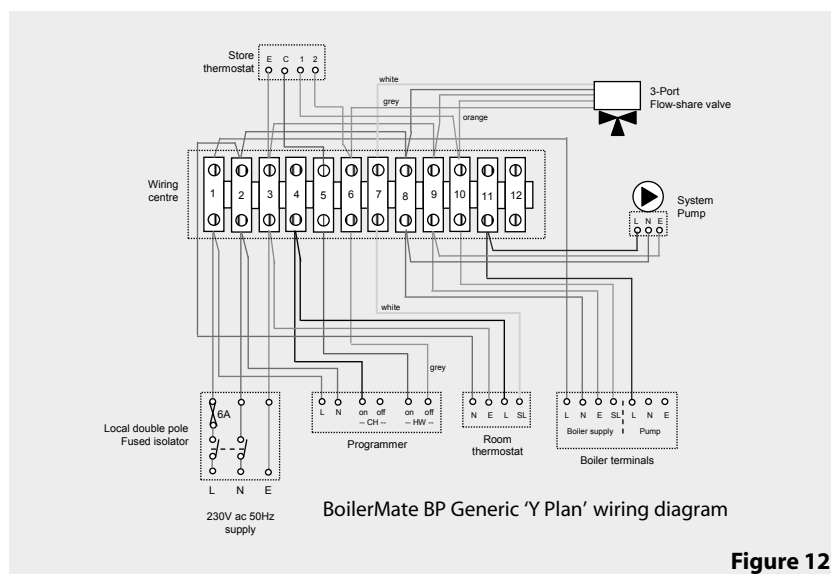

Figure 12
- 6 The 230Vac 50hz supply to the system wiring centre must be in accordance with the relevant IEE Wiring Regulations on the circuit must be protected by a suitable 5A fuse and a double pole local isolating switch (see figures 12 and 13)